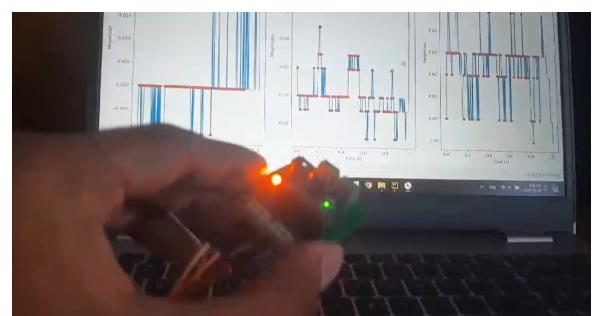

Figure 3.7
- Figure 3.7 - Sensor picking up and plotting movements of hand.